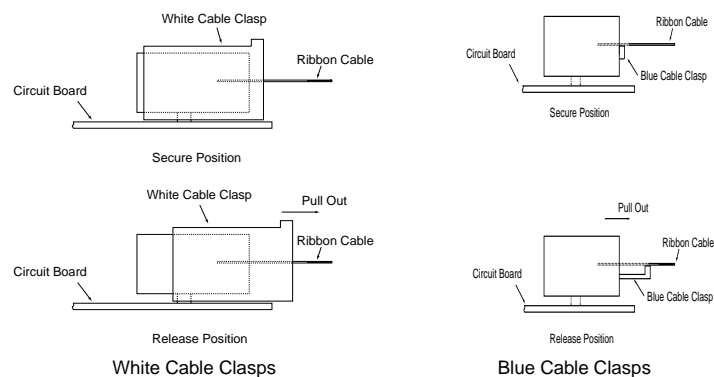

Figure 4.1.6: Cable Connector Secure and Release Positions
7. Using two flat blade screwdrivers, carefully pull out on each side of the cable clasp of J3, J4, and J5 to the release position (see Figure 4.1.6). Note that there are two versions of the cable clasps, blue and white. See Figure for clasp operation. *Ensure that the ribbon cables have been released before pulling to avoid damage to the cables.* Pull the ribbon cables from the sockets. The cable clasp remains in place. If the cables are damaged, replace with cable kit, catalog number VZ3N616.
14. Ensure that all three cable clasps are pulled out on J3, J4, and J5 (see Figure 4.1.6 on page 4.1.10).